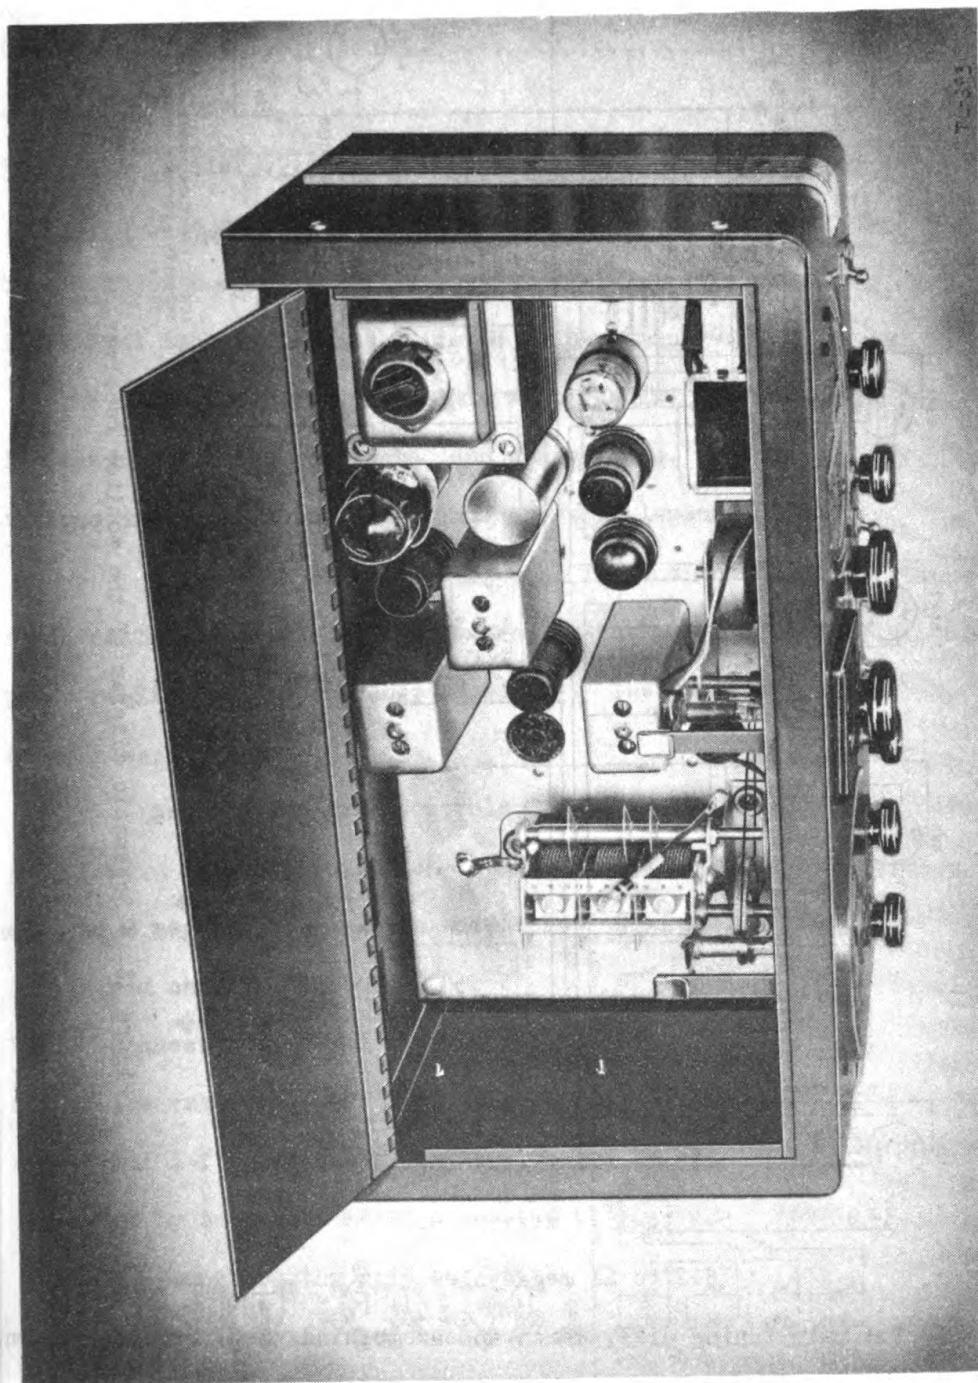
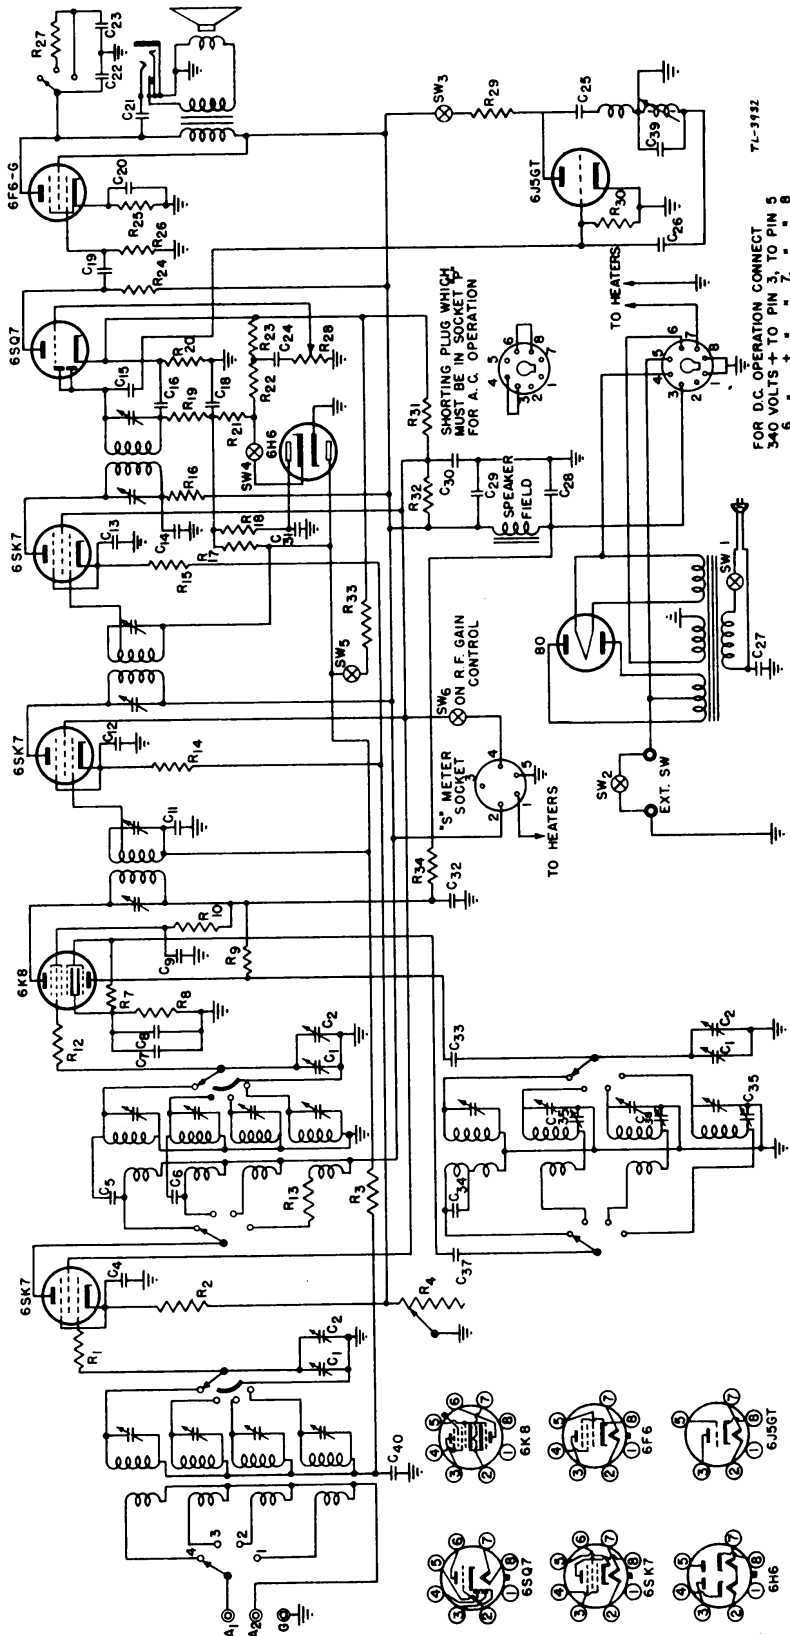

Figure 12. - Inside view of the monitor receiver.
Figure 13. - Schematic diagram of the monitor receiver.
26. MONITOR RECEIVER. - The monitor receiver is a conventional "all-wave" receiver. An inside view of the chassis is shown in figure 12. Its complete schematic diagram is shown as figure 13. From left to right, the tube functions are as follows: Type VT-117 (6SK7), r-f amplifier; Type VT-167 (6K8), combination mixer and high frequency oscillator; Type VT-117 (6SK7), second i-f amplifier; Type VT-103 (6SQ7), combination second detector, avc, first a-f amplifier; Type VT-66-A (6F6G), audio output; Type VT-90 (6H6), automatic noise limiter; Type VT-94-A (6J5GT), beat-frequency oscillator; and Type VT-80 (80), power rectifier. The intermediate frequency is 455 kilocycles.